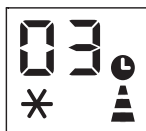

Fig. 6
- Press several times until the corresponding time is displayed. Wait about 5 seconds, the timer will be active. then only the ⌚ symbol is displayed on screen.(fig 6)